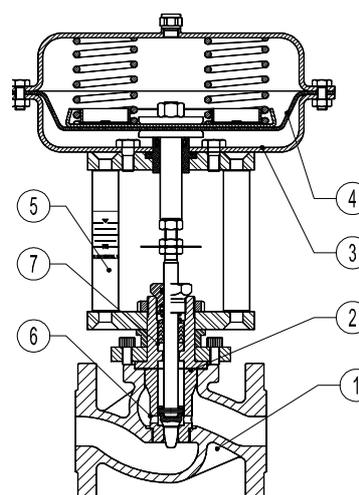

**Fig. 6 – Packing type G**
24 hours after the start up, it is recommended to check pipe connections and verify the tightening of flanges locknuts. Graphite packing should be compressed by tightening the threaded bushing (3) (see fig.6) about a ¼ of a turn (care should be taken since over tighten may lock-up the valve stem).